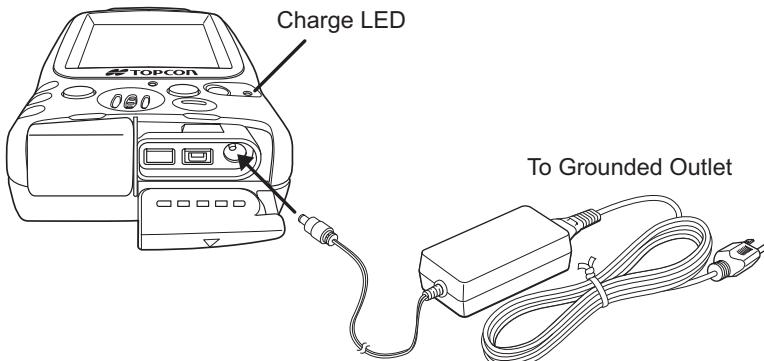

Figure 2-2. Charging the Battery in the GMS-2
**To charge the battery using the converter,** (Figure 2-2) plug the connector into the power port of the GMS-2. Then plug the converter into a grounded outlet. The battery will be fully charged after about six hours.